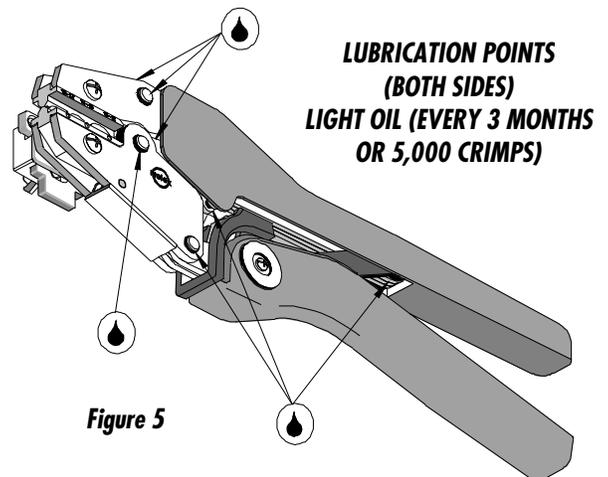

Figure 5
3. Make certain all pins; pivot points and bearing surfaces are protected with a thin coat of high quality machine oil. Do not oil excessively. The 64001-3200 (RHT-5770) was engineered for durability but like any fine piece of equipment, it needs cleaning and lubrication for a maximum service life of trouble free crimping. A light oil, such as 30 weight automotive oil used at the oil points shown in Figure 5, every 5,000 crimps or 3 months, will significantly enhance the tool life and ensure a stable calibration.